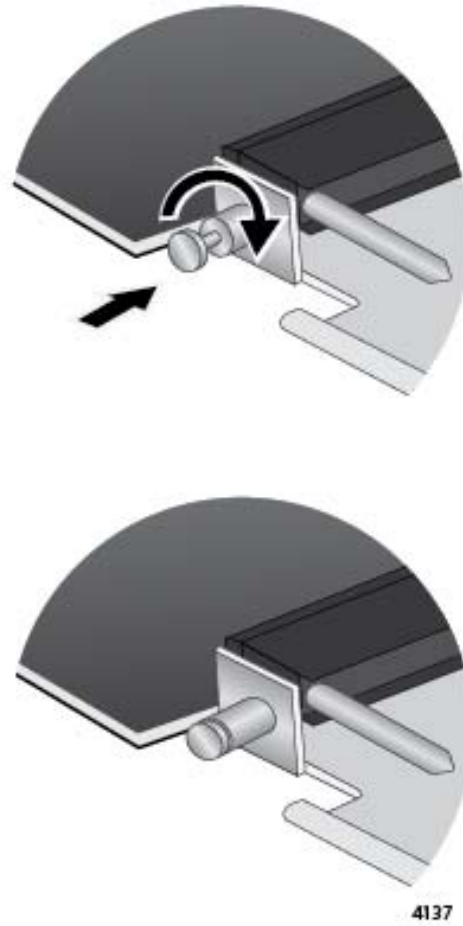

Figure 167. Releasing the Retaining Pin
11. Turn the retaining pin on the side of the card a quarter turn to release it. Refer to Figure 167 on page 258.